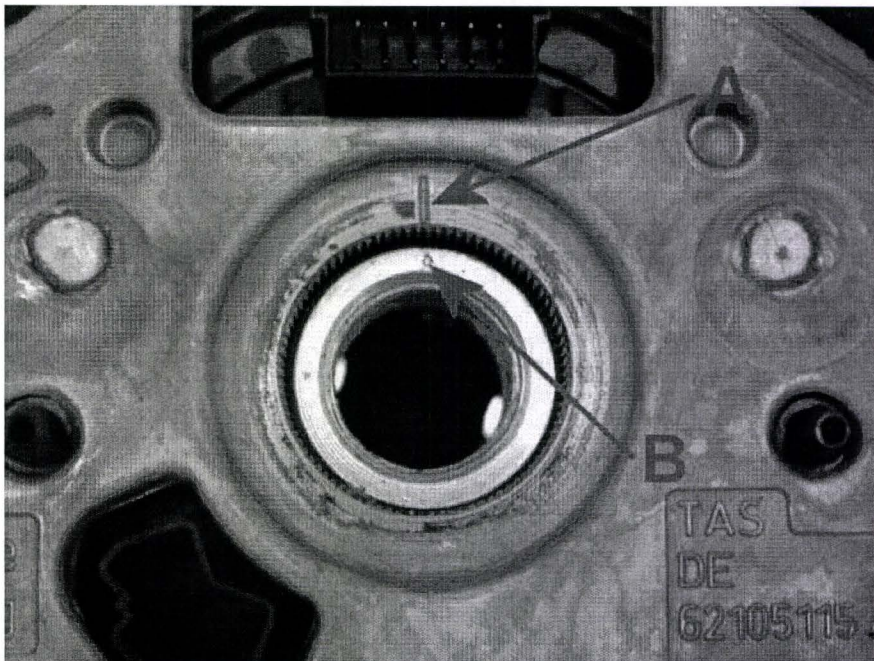

Figure 5
8. Refit the steering wheel ensuring the timing line on the steering wheel is aligned with the dot punch on the steering column (Refer to Figure 5), Refer to workshop manual Rep Gr 48 Steering Wheel – To Remove and Fit